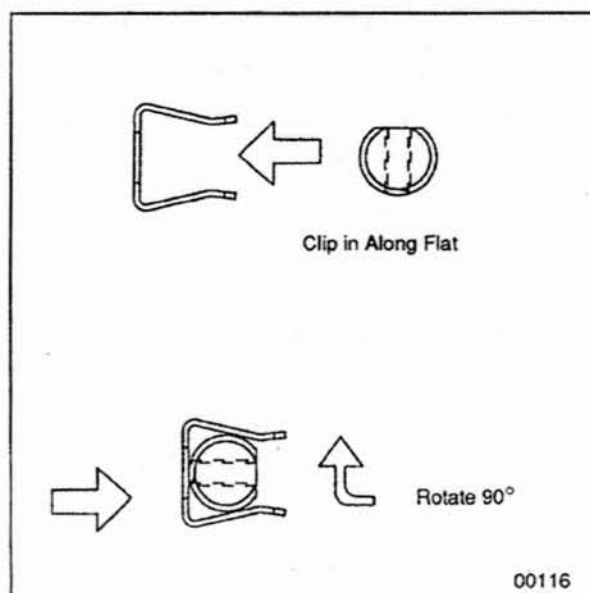

Figure 5.13 Rod Pivot Alignment.
6. Rotate rod pivot 90° to orient the tapped hole away from the bracket opening. The rod pivot should drop free. See Figure 5.13.
1. Position the rod pivot at the tension bracket opening. Rotate the rod pivot so that it slips into position and rotate it so that the tapped hole aligns with hole in tension bracket. See Figure 5.13.